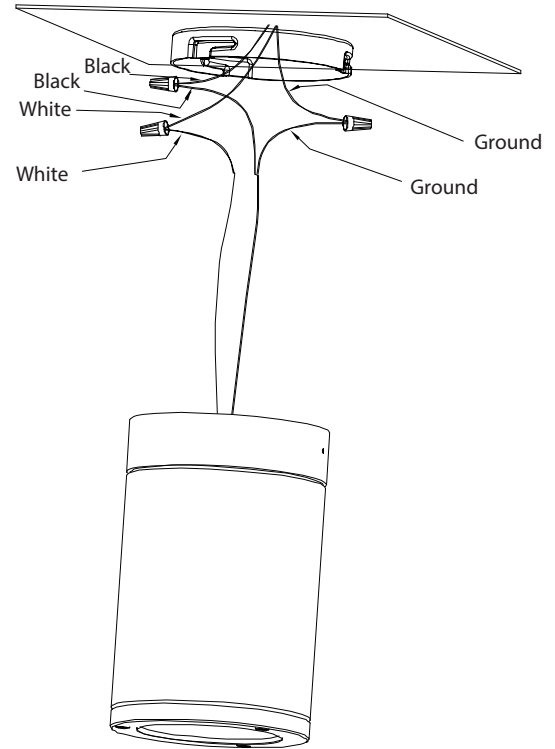

Fig.3
7. Use the set screw (B1) provided to secure the fixture in place. (Fig.3)